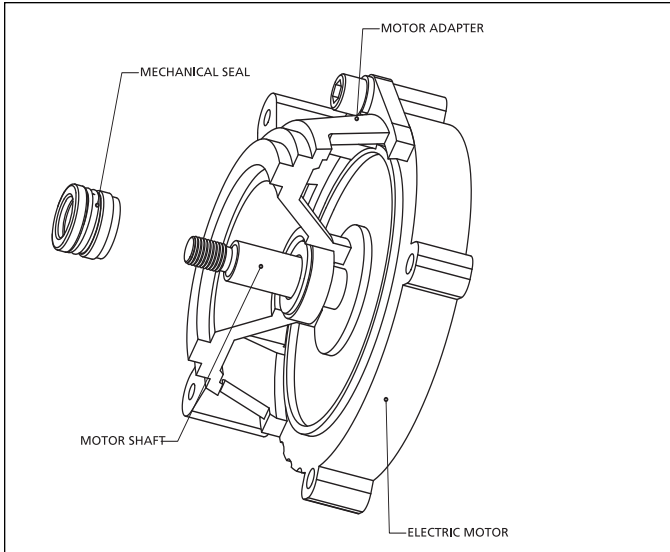

Figure 4 - Seal Removal
3. The seal (Ref. No. 5) can now be pulled from the shaft. (See Figure4).
Seal Assembly Removal and Installation (Figures 4 thru 7)